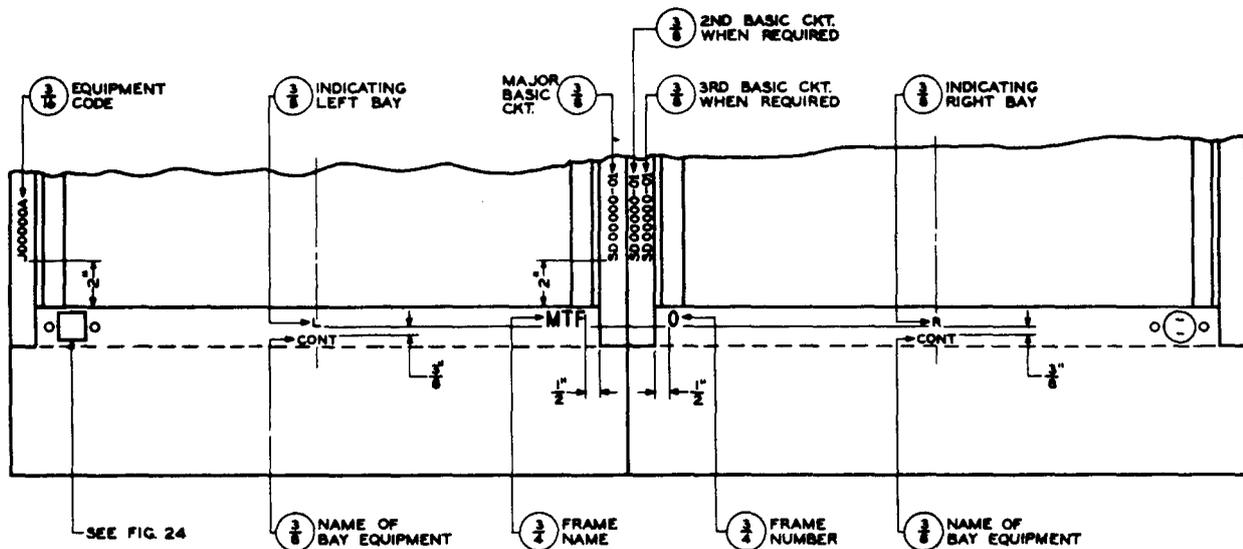

Fig. 17 - Front View of Double-bay, Box-type Frame Base
- (a) *On the front* slanted face of the frame base, located above the name of the bay equipment on the center of each bay, as shown in Fig. 17.